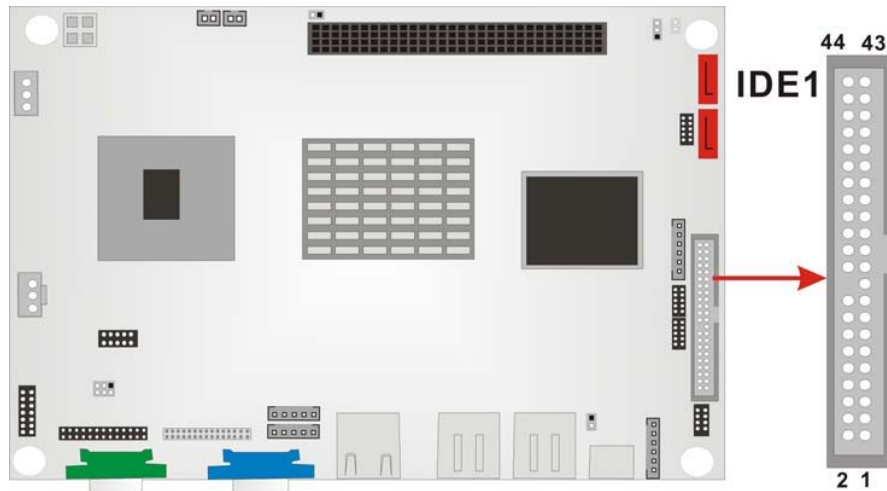

Figure 3-12: IDE Connector Location
- CN Location:** See Figure 3-12